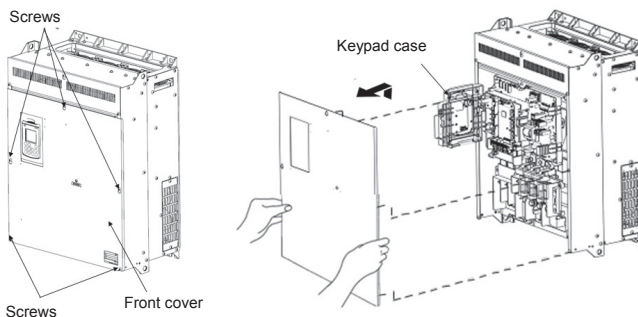

Figure 2.3. Removing the Front Cover and the Wiring Plate (VXH210S-4E)
- ① Loosen the screws on the front cover, hold the right and left ends of the front cover, and slide it up to remove it.
- ② After making the necessary wiring connections, align the top of the front cover with the holes on the unit and reattach the cover by reversing the process illustrated in Figure 2.3.